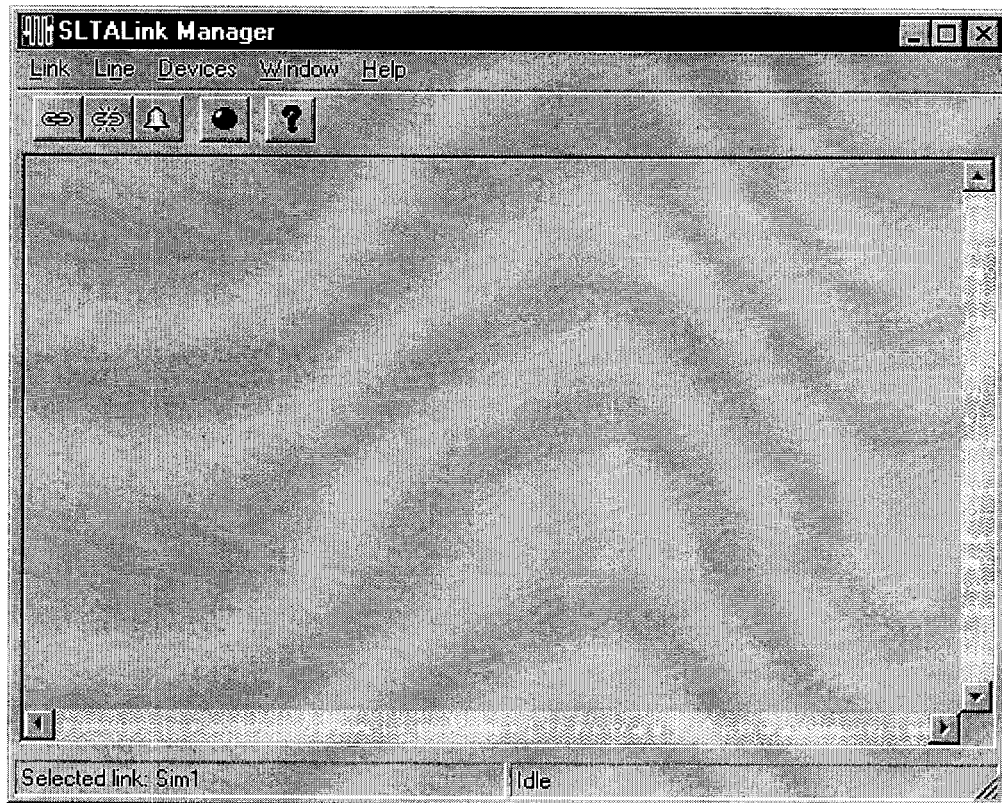

Figure 11.5 SLTALink Manager Application Screen
2. Click on the SLTALink Manager icon found in the notification section of the taskbar (figure 11-5).